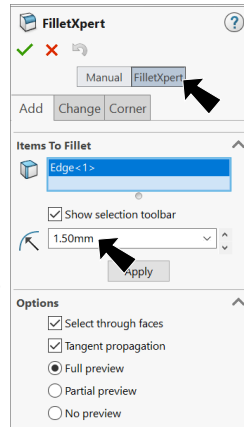

Fig. 41
Step 2. In the Fillet Property Manager set: select **FilletXpert**, **Fig. 41**
③ **Radius**  1.5